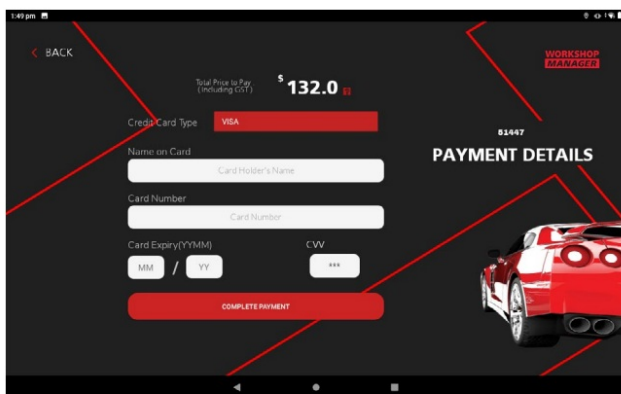
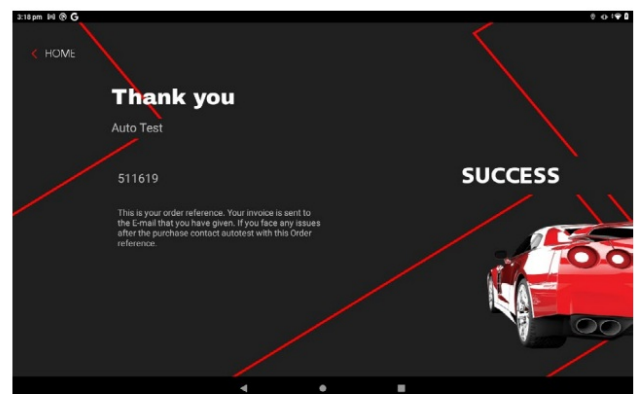

Figure 18
Figure 19
- **Step 4:** Enter your credit card details and complete the payment. (Figure 18) Once the purchase is successfully processed and accepted, a prompt will appear to confirm that your Brake Pro License is now successfully activated.(Figure 19)